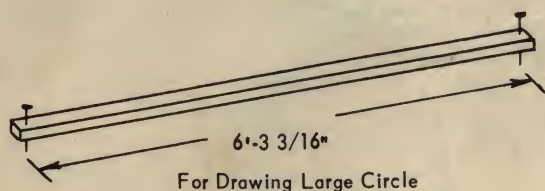

FIG. 3
2. Draw 6'-3 $\frac{3}{16}$ " Radius on fresh concrete. Drive nails through wood strip to make an accurate compass. See Fig. 3. This dimension must be accurate.